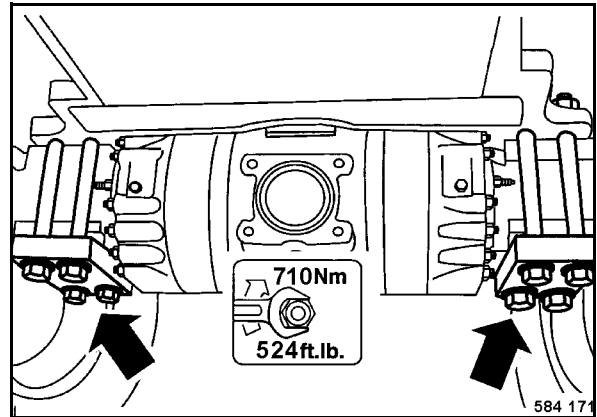

Fig. 169
- Check all fastening nuts on axle mounting bolts (Fig. 169) for tight fit.